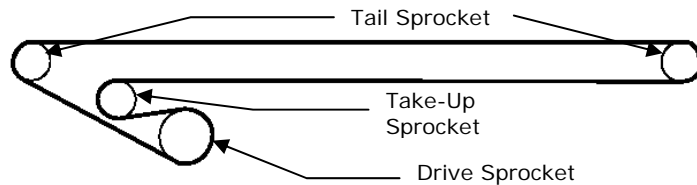

Figure 4.1 – Chain Routing for Center Drive Chain Conveyor
- Install chain per Figure 4.1.